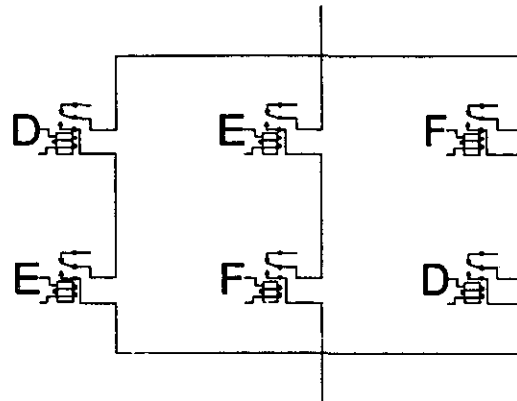
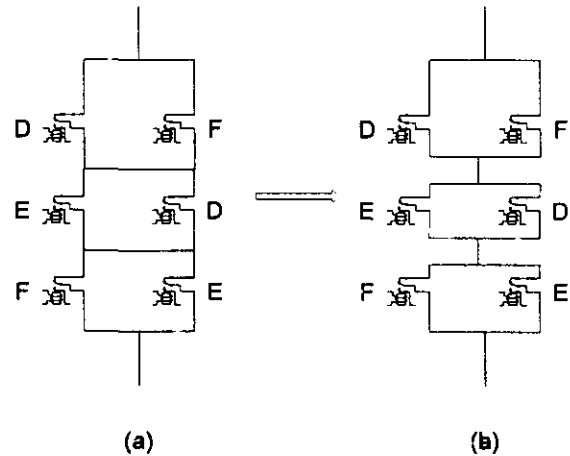
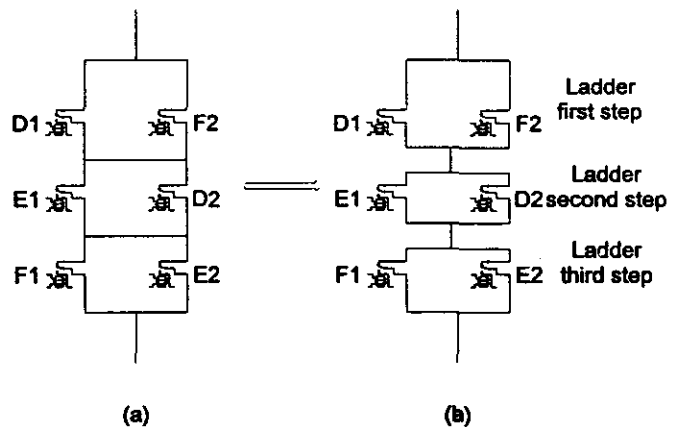

Figure 2.8 '2 out of 3' Logic - Relay example
Figure 2.9 '2 out of 3' Ladder Logic
Figure 2.10 '2 out of 3' Ladder Logic - Separate Relays
Figure 2.8 illustrates a relay setup that operates on a 2 out of 3 logic, or 2/3 logic. There are 3 physical relays, D, E and F but each relay has two sets of terminal pairs, allowing them to be connected as shown. The relays are normally open but close when a signal (D, E or F) from their respective channels are received. If any two channels are activated, then the circuit is completed and current can flow between top and bottom. If the sub-circuit is in a safety system circuit, the safety system is activated when two or more of channels D, E and F are TRUE. If the probability of failure of any relay is p , what is the overall unavailability of the sub-circuit?
Consider now the system shown in Figure 2.9(a) where the relays D, E and F have two sets of terminals just like the previous example. In the standby or ready state, the relays are energized closed, providing a current path from top to bottom. When the system "fires", ie, when signals are received at the relays, the current path is broken if at least 2 relays change state (go from closed to open). Failure of a component (a relay in this case) occurs when it fails to change state as requested. The failure modes are the same as for the previous example and are given in table 2.5. We conclude that the system depicted by figure 2.9 is entirely equivalent to that of figure 2.8.
In actual systems, the relays of the ladder shown in figure 2.9 do not have dual terminals. Rather, separate relays are used, depicted as D1 , D2, etc. in figure 2.10.
Step 1 fails if either D1 or F2 fails to switch state upon demand (from closed to open). The fault tree is shown in figure 2.10. The system unavailability is thus: